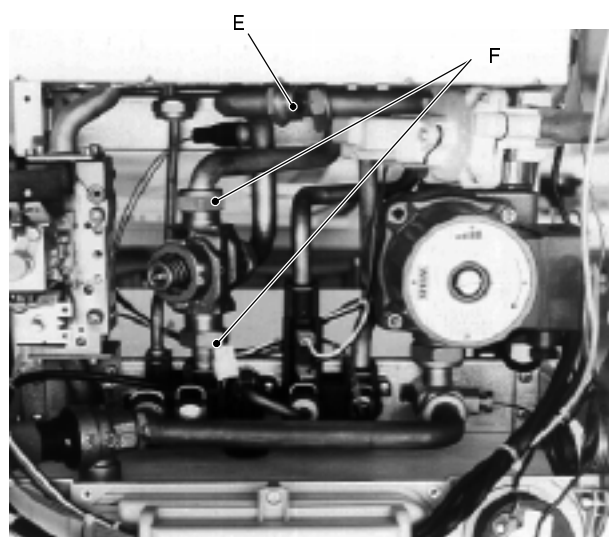

fig. 31
- 3 Loosen the pipe fitting *E* (fig. 31);
- 4 completely loosen the pipe fittings *F* (fig. 31) and remove the hydraulic group together with the pipe connected to the rear pipe fitting